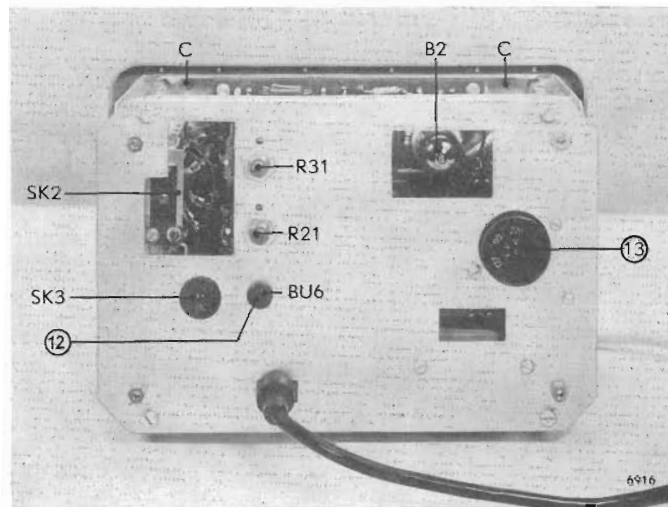

Fig. 9. Removing the front panel
- * Loosen the 8 screws "C" (Fig. 9).
Adjust the pointer to zero by means of the variable resistor R31 (upper screw adjustment at the rear, see Fig. 9).
Connect an accurate D.C. voltage of 10 V to BU1 and adjust the pointer to 10 V by means of R21 (lower screw adjustment at the rear, see Fig. 9).